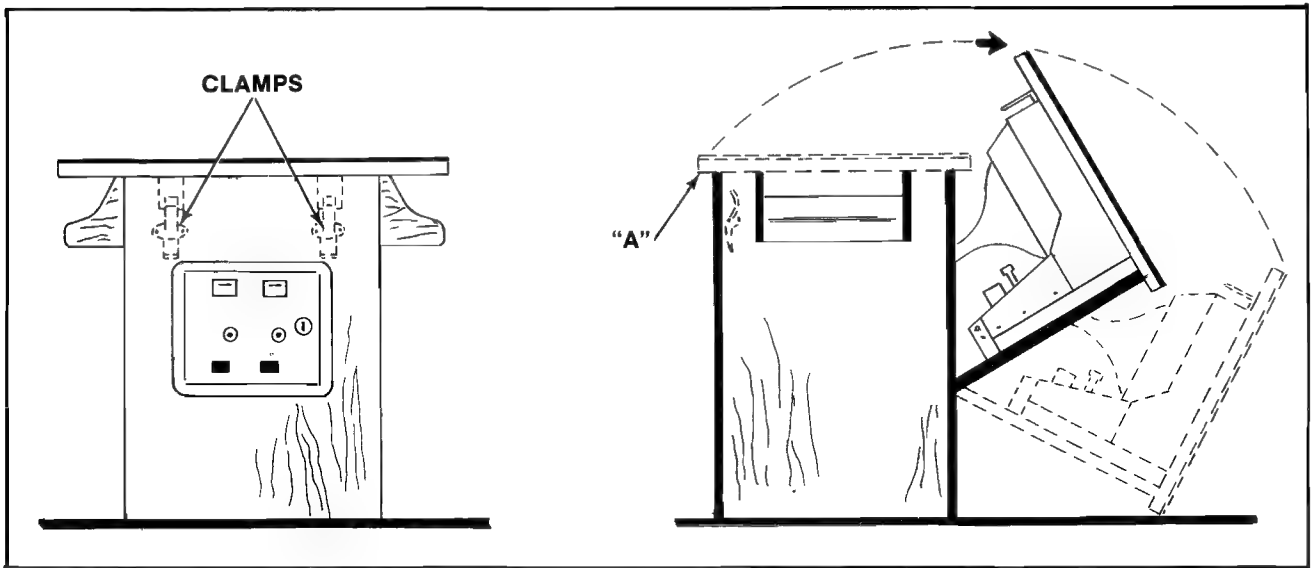

Figure 22 Opening Cocktail game
- Open the coin box door and release the two latches indicated in Figure 22.
- Grasp the table top at "A" and open it as indicated in Figure 22.
Open the coin box door and release the two latches indicated in Figure 22.